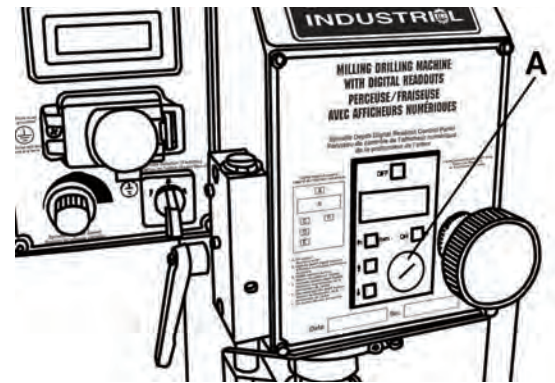

FIGURE 21
- 1) Using a screwdriver or a coin, unscrew the battery cover (A) Fig.21 and remove it.